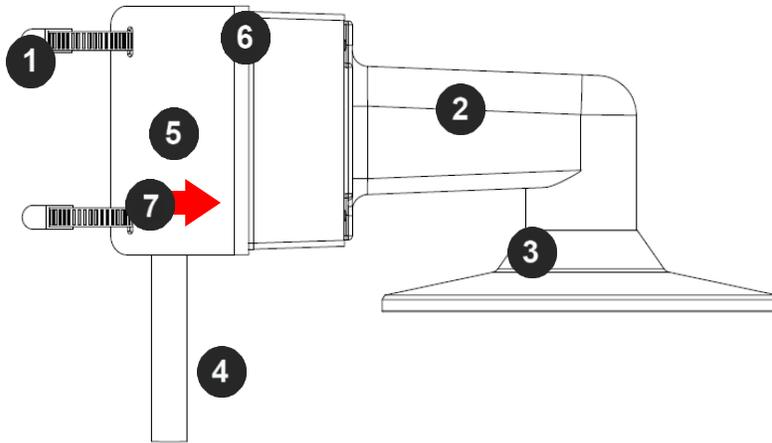

Figure 2: Attach wall mount adapter to pole mount adapter
6. Attach the Wall Mount Adapter (AV-WMJB-W) to the Pole Mount Adapter (AV-PMA-W) as shown in Figure 2.